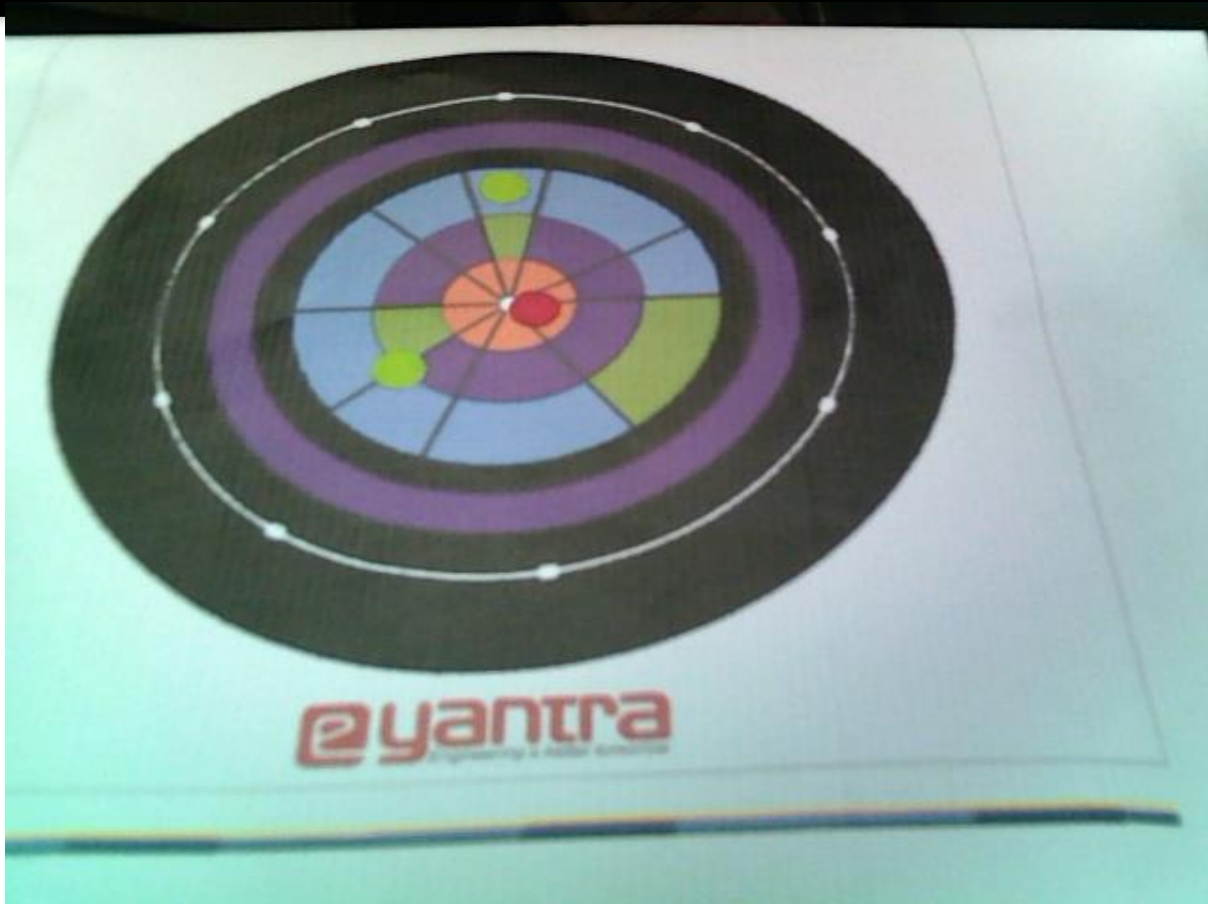

Figure 1: Overlay Example
< Prepare the arena according to the steps given in Section 3: Arena, of the Rulebook. Please follow the arena configuration shown in “Figure 1: Basic Elements of the Arena” of the rulebook.
Q6. a. If a team has a condition such as that shown in figure 1 below compute the possible bonus, penalty if any and the maximum marks the team can score. Elaborate on bonuses or penalty if any - why it will be applicable? Also elaborate the conditions in which the team will score a maximum in this situation (5)